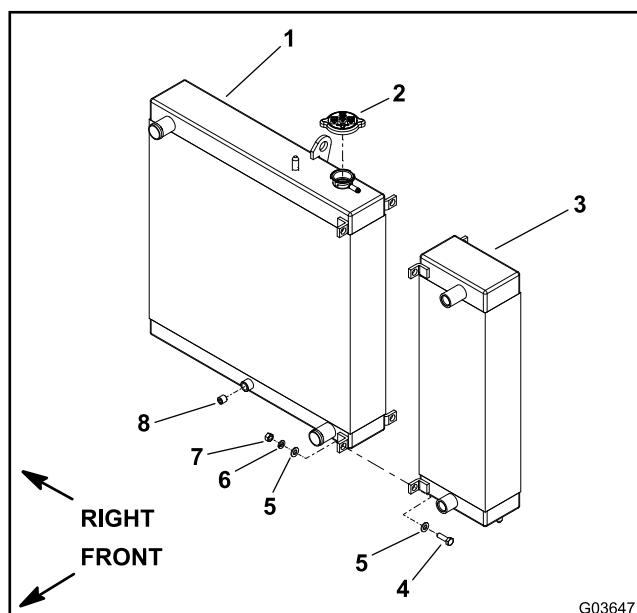

Figure 11
3. Remove the radiator cap (item 2 in Figure 11) from the radiator.
4. Remove the pipe plug (item 8 in Figure 11) from the bottom of the radiator and completely drain the coolant from the radiator into a suitable container.
- A. Remove the 4 screws (item 4 in Figure 11), 8 flat washers, 4 lock washers, and 4 hex nuts that attach the oil cooler to the radiator.
- B. Attach the oil cooler to the radiator with the 4 screws (item 4 in Figure 11), 8 flat washers, 4 lock washers, and 4 hex nuts.
10. Apply thread sealant to the threads of the pipe plug (item 8 in Figure 11). Install the plug into the radiator opening.
13. Install the radiator cap (item 2 in Figure 11) to the radiator.